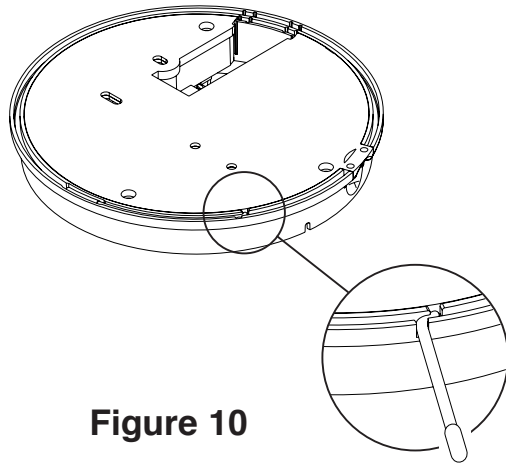
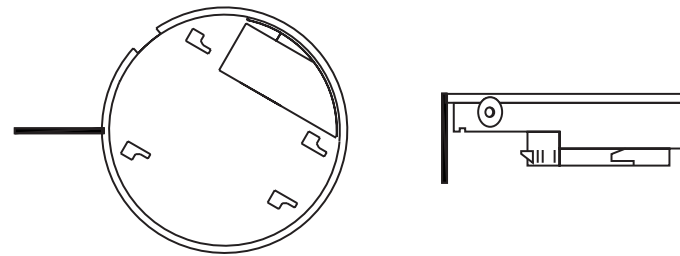

Figure 10
Figure 11
- (iii) Extend the flexible antenna from the base housing. To do this, the antenna should first be removed from its groove in the base of the unit (*see Figure 10*). Remove the breakaway section in the outer rim and push the antenna in to this groove. For improved signal strength the antenna can be pushed flat or vertical with respect to the ceiling (*see Figure 11*).